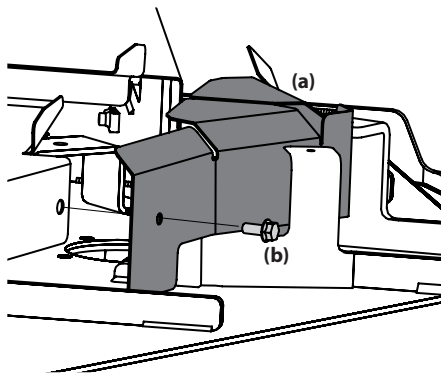

Figure 4-15
3. On models with full deck covers, the front deck cover (a) will need to be removed before removing the deck. To take off the front deck cover (a) remove the two hex screws (b, one on each side) that secure it to the main deck cover. See Figure 4-15.
13. On models with deck covers, re-install the front deck cover. See Figure 4-15.